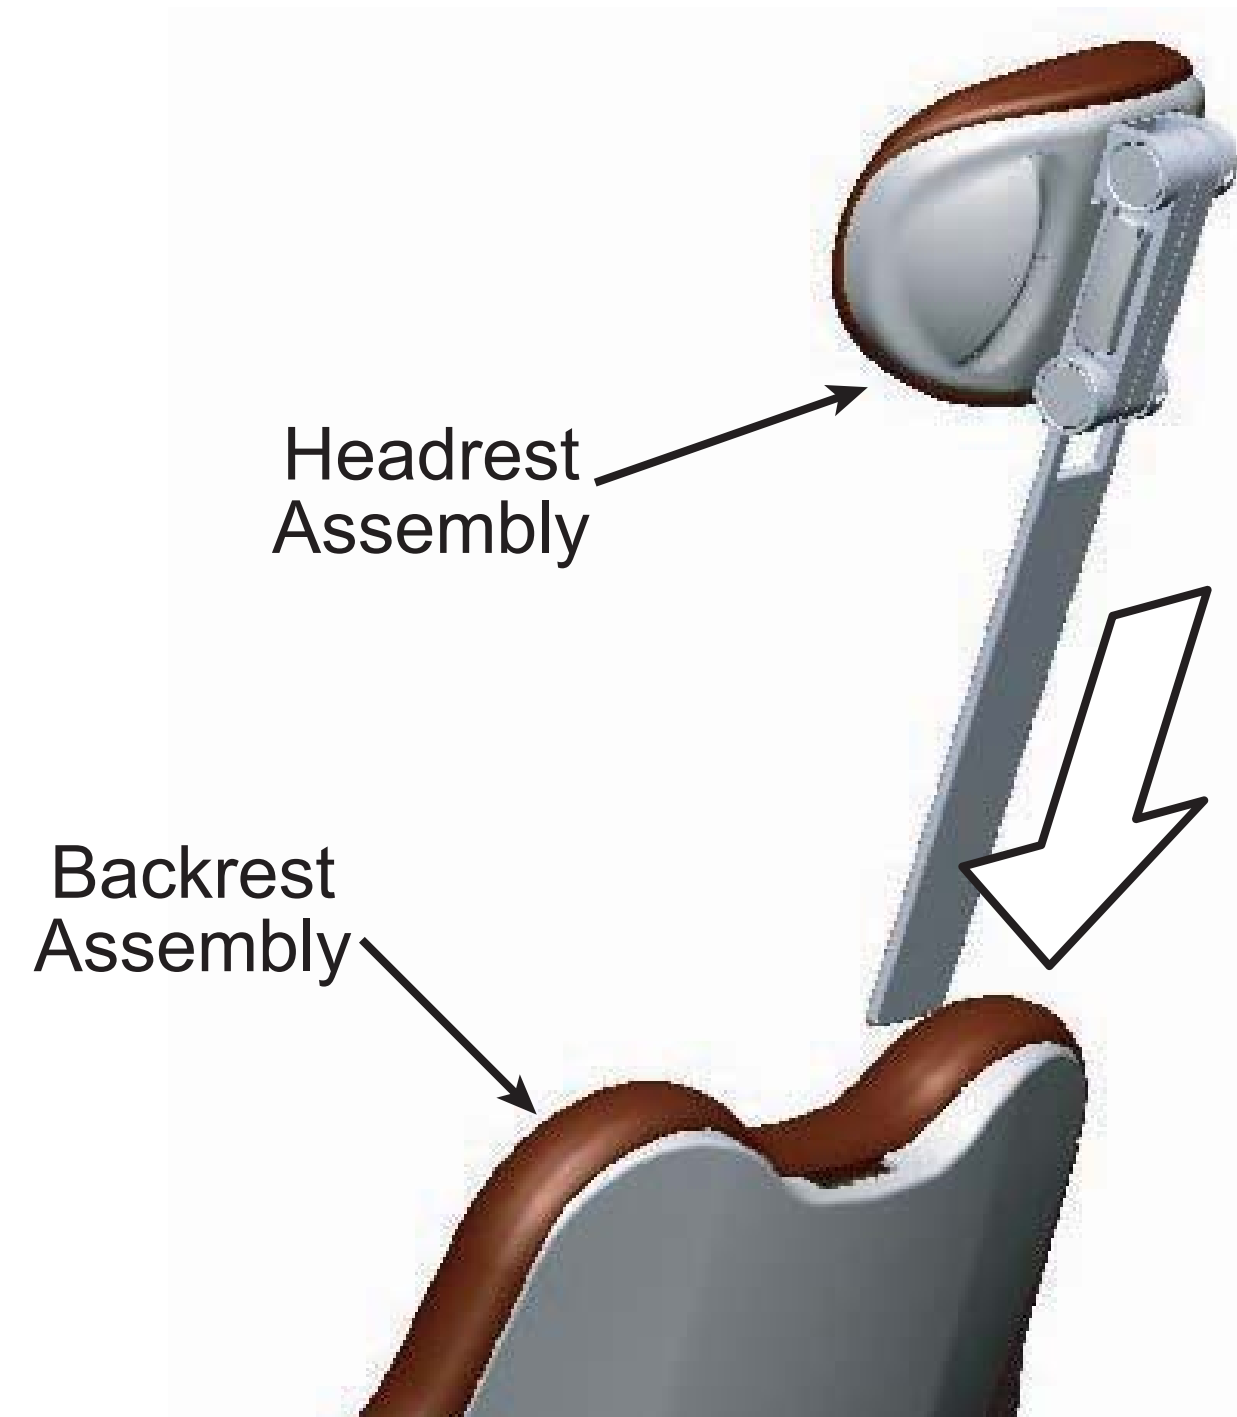

Fig. 5-9
3. Insert the Headrest Assembly into the slot on top of the Backrest Assembly. (Fig.5-9)